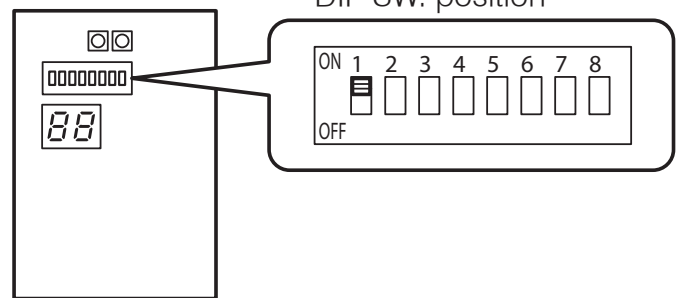

Figure 3-6: Anti-freeze function setting
- Set DIP SW1 to OFF (down position). Refer to Figure 3-6.